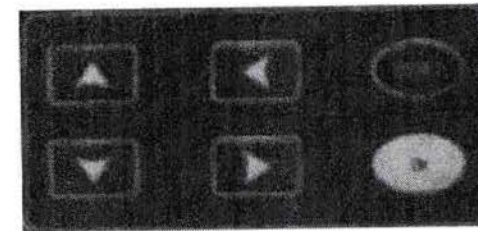

Figure 4
- i. Figure 4: Control panel operation